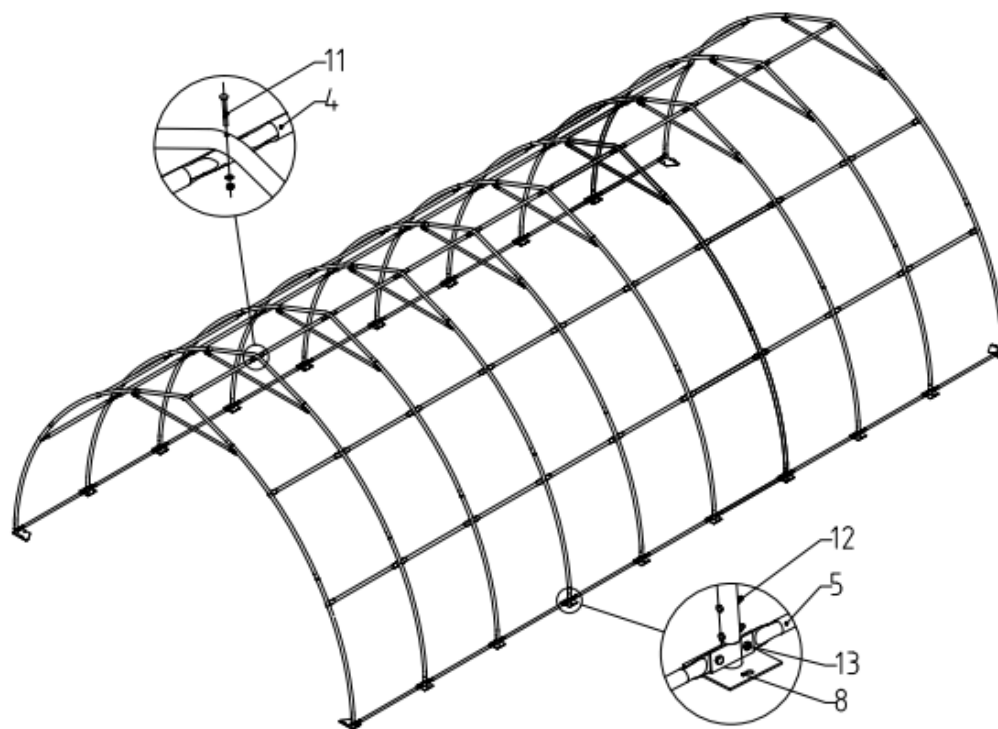

Figure 5
- Refer to step 3 to put up the rest trusses, connect roof purlin (#4) with bolts (#11), connect the bottom tension tube (#5) with baseplate (#8) (refer to figure 5).
- (45) Roof purlin (#4)
- (50) Half round head bolt (#11)